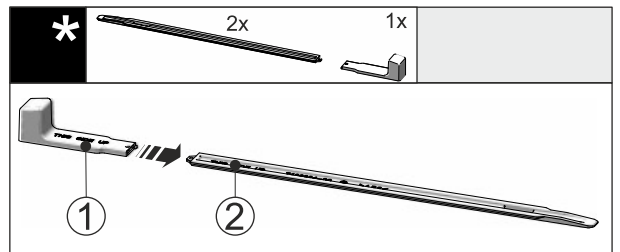

Fig. 54
- ▶ Attach the installation handle Fig. 54 (1) to the levelling rail Fig. 54 (2).